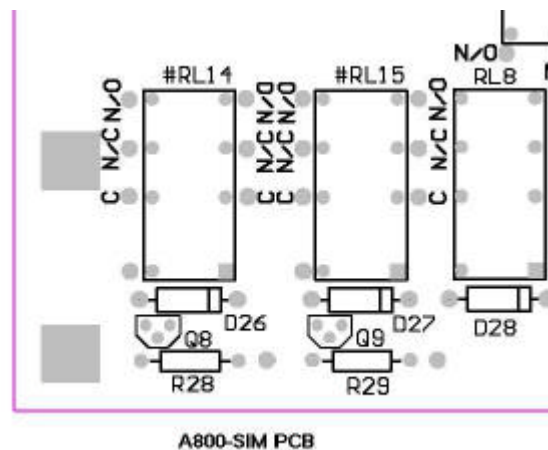

Figure 8.
4. Fit relays to the #RL14 and/or #RL15 positions as shown in Figure 8.